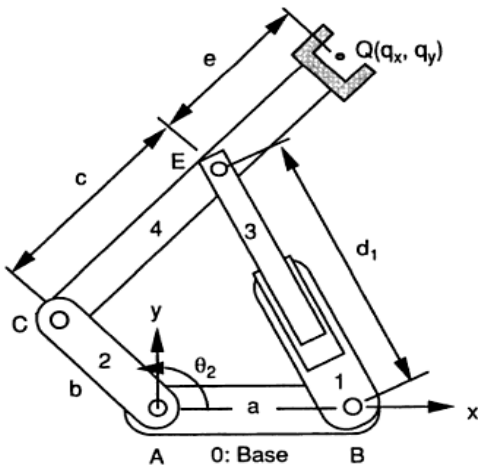

FIG. 3
- Fig.3 shows the schematic diagram of planar 2-DOF five bar manipulator that is constructed with one prismatic and four revolute joints. Find the end effeter position Q as function of the two input joint variables,  $d_1$  and  $\theta_2$ . (12 M)